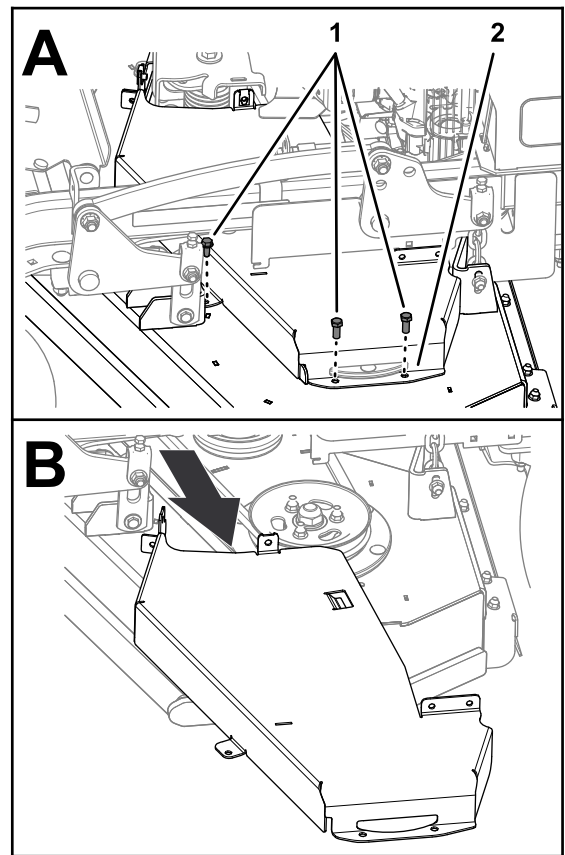

Figure 37
4. Remove the 3 bolts that secure the left belt cover to the deck, and remove the cover (Figure 37).